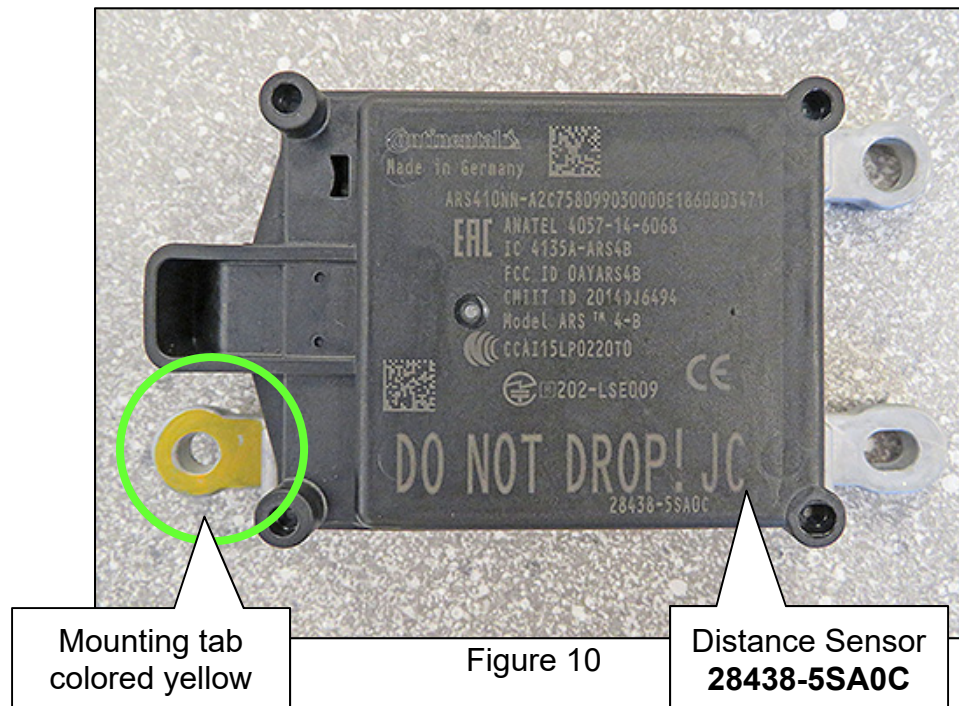

Figure 10
- New Distance sensor will have mounting tab colored **yellow**, as shown in Figure 10.